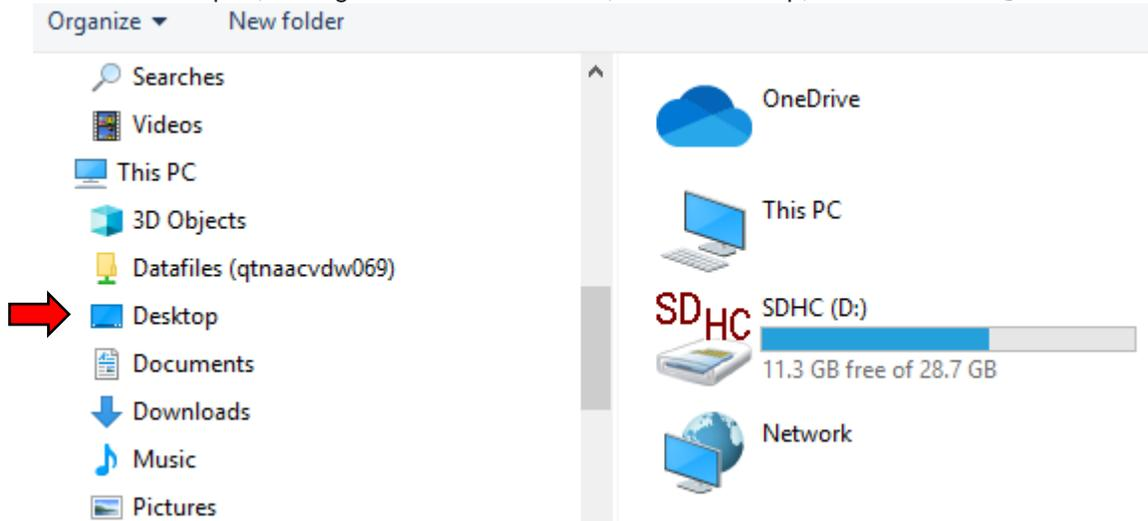

Fig. 5, Saving the File to the Desktop
7. A window will open, asking where to save the file; select 'Desktop,' as shown in Fig. 5.